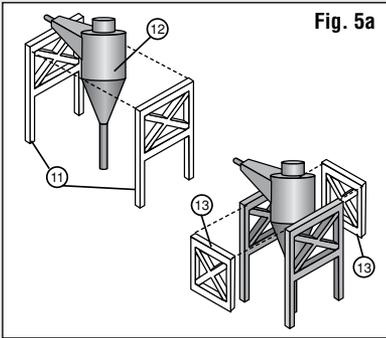

Fig. 5a
Dust Collector Assembly (Fig. 5a): Glue Large Frame 2x (11) to Dust Collector (12). Glue Side Frame 2x (13) to Dust Collector. Glue Dust Collector Assembly to Building.